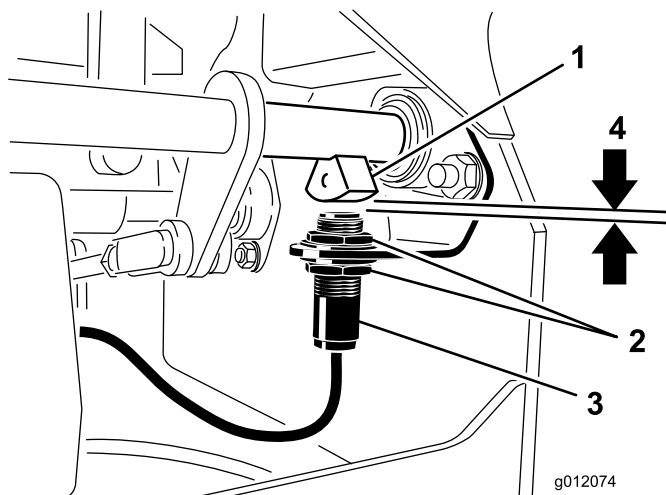

Figure 53
4. Move the switch up or down on the bracket until the distance between the brake shaft sensor and the switch plunger is 3.9 mm (5/32 inch) (Figure 53).